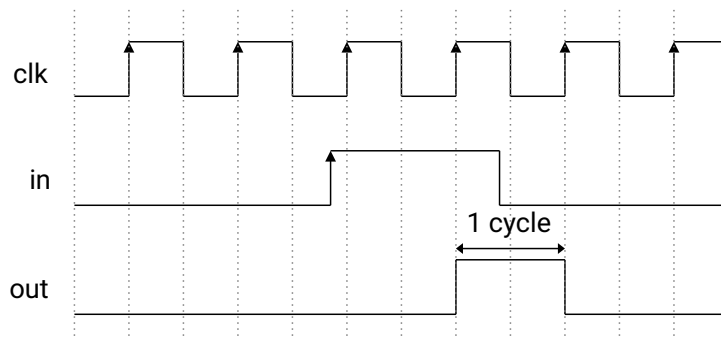

Figure 1: Rising Edge Detector behavior
a. Design a Rising Edge Detection circuit. This circuit will use at least 2 flip-flops. The behavior of the circuit is similar to the waveform in Figure 1. Assume that the in signal's HIGH levels last equal to or longer than a clock cycle.